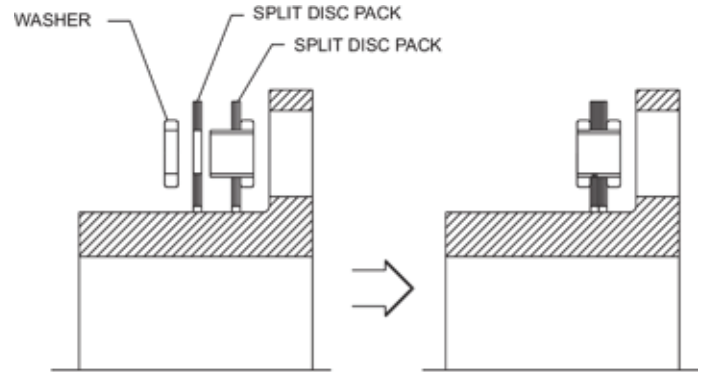

Figure 5. KD10 Disc Pack Assembly
3.6 Place the two halves on the hub, press together and reassemble the complete disc pack (see Figure 5).